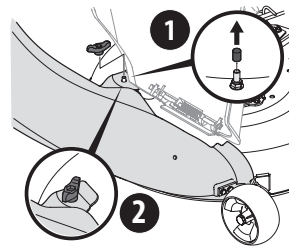

Figure 20
- Secure the boot to the deck using a wing knob (720-04122) from hardware pack 689-01419. See Figure 20.
NOTE: If present, remove the protective cap off of the mounting stud on the mowing deck as shown in the upper inset of Figure 20.